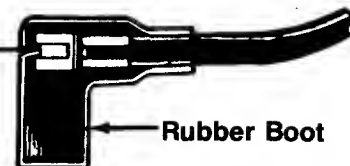

FIGURE 9.
1. Attach spark plug wire to spark plug. Make certain the metal loop on the end of the spark plug wire (inside the rubber boot) is fastened securely over the metal tip on the spark plug. See figure 9.